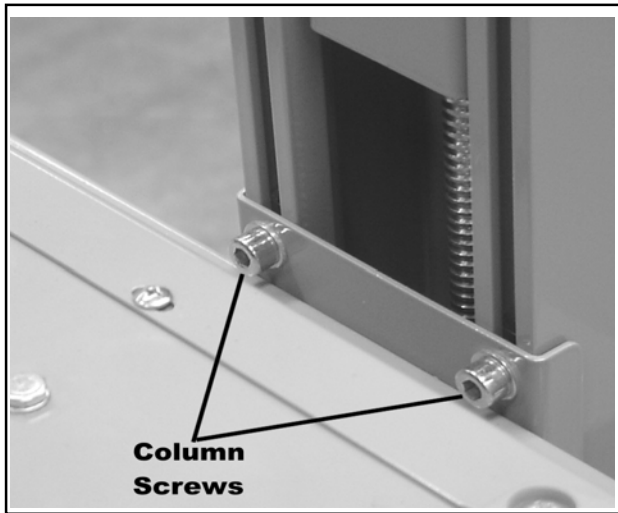

Figure 2-6—Loosen Column Screws
- Using a 6 mm hex wrench, loosen the four screws in the column without the height adjustment handle as shown in Figure 2-6.
- Using a 6 mm hex wrench, loosen the four screws that secure the column with the handle to the machine bed as shown in Figure 2-6.